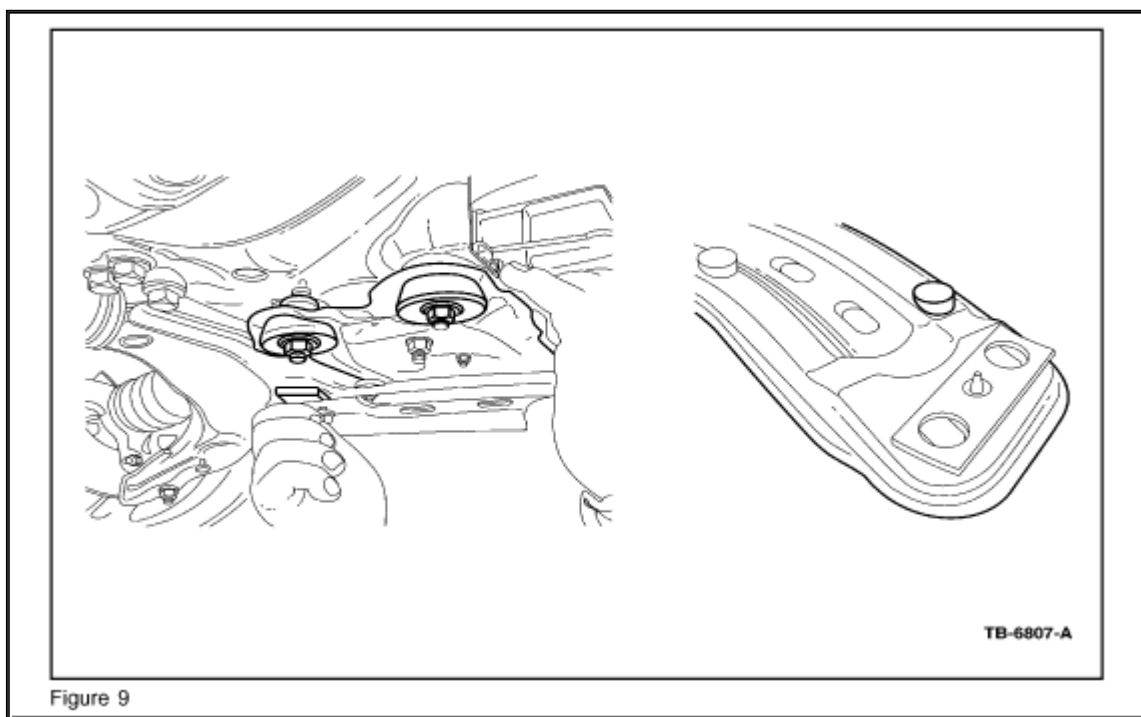

Figure 9
**NOTE** INSTALL TWO (2) NEW SPACERS (2S4Z-5L020-AA) BETWEEN THE LOWER CROSS-MEMBER AND THE FRAME FOR VEHICLES BUILT PRIOR TO 06/25/2001 ONLY (FIGURE 9).